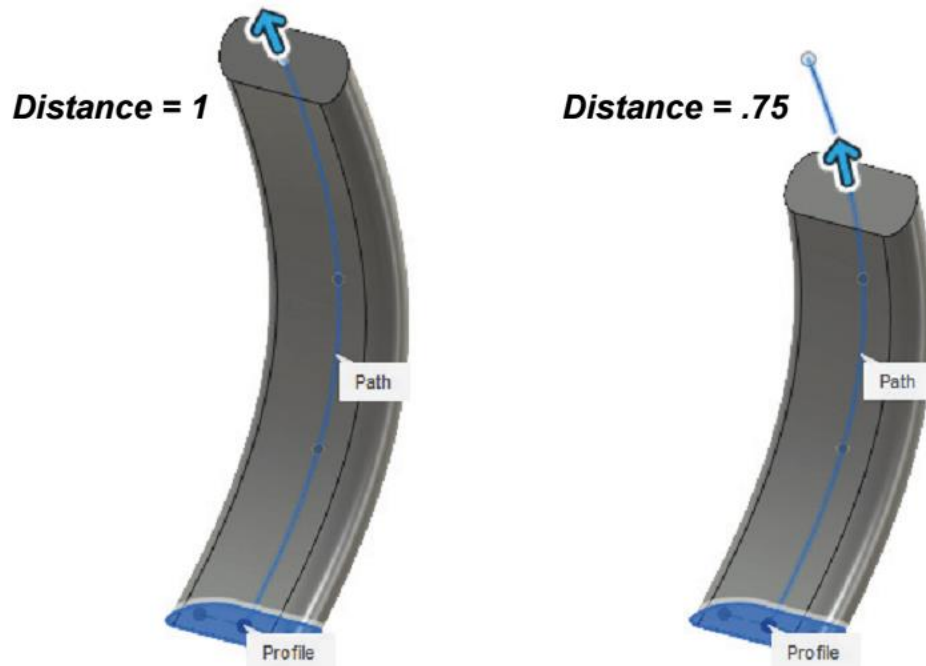

Figure 11–4
- The profile can be swept a set distance along the path using a *Distance* value, as shown in Figure 11–4. The value is defined as a proportion of the overall path. Alternatively, you can drag the manipulator arrow to define the value, as required.